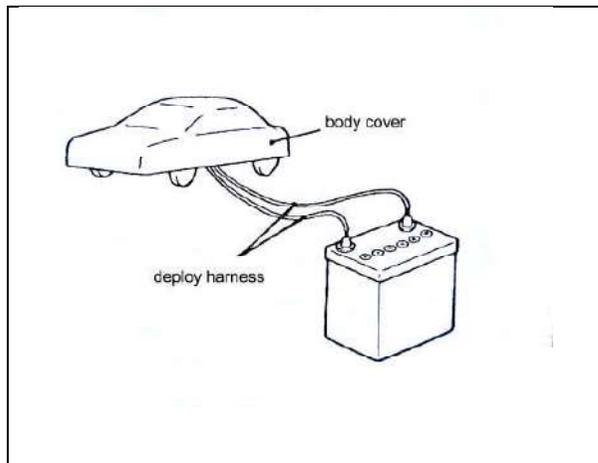

Fig 19-38
- ⑥ Separate the deployment harnesses as far from the vehicle as possible and connect to the terminals of the battery removed from the vehicle,Then deploy . (See fig 19-38)